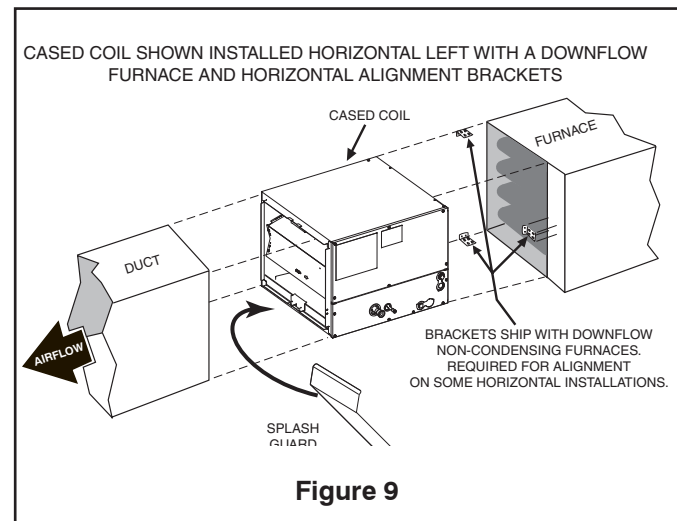

Figure 9
- e. Two brackets are used to attach the rear of the coil and furnace and one bracket is used to attach the front. The rear brackets will use existing screws on the coil enclosure (two on each side at the bottom). Each of the rear brackets will be attached with the wide side of the bracket resting on the top and bottom of the horizontal coil and furnace (see Figure 9). Four additional screws will be used to attach each rear bracket.